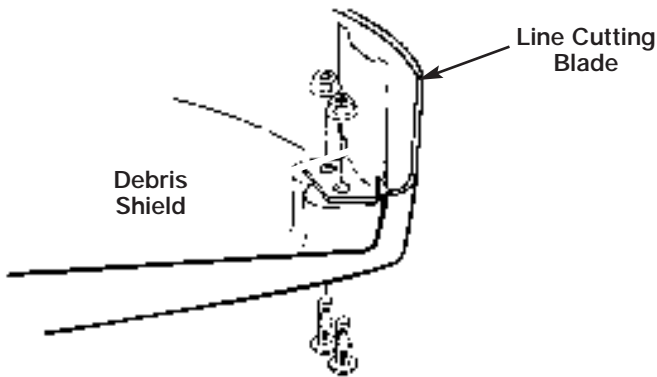

Fig. 35
1. Remove the line cutting blade from the debris shield (Fig. 35).